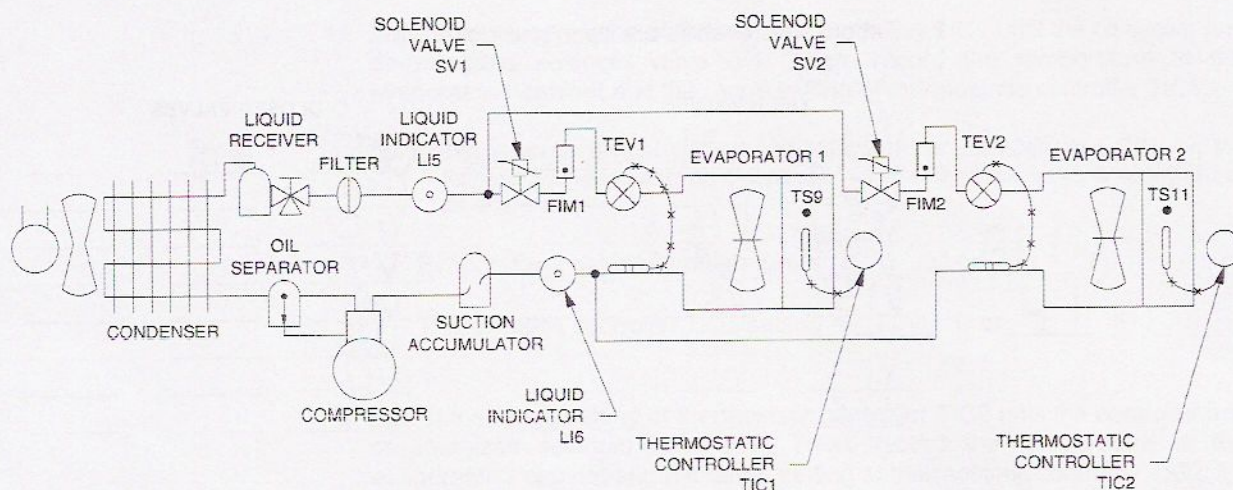

Figure 5-11. Schematic diagram of a multi-evaporator refrigeration system using solenoid valve control.
A schematic diagram of a multiple evaporator system using solenoid valve control is shown in Figure 5-11. The evaporators are controlled separately by solenoid valves and thermostatic controllers. Two TEV's are used to provide different pressures within the evaporators. The thermostatic controllers can be set to a specific temperature to stop refrigerant flow to the evaporators through the solenoid valves when the desired space temperature is reached. The thermostatic controller de-energizes the solenoid valve, stopping liquid refrigerant from flowing into the evaporator.
1. Open and close the manual valves to arrange the refrigeration system as shown in Figure 5-11. Figure A-6 in Appendix A may be used at this point to assist in the proper set-up of the system.